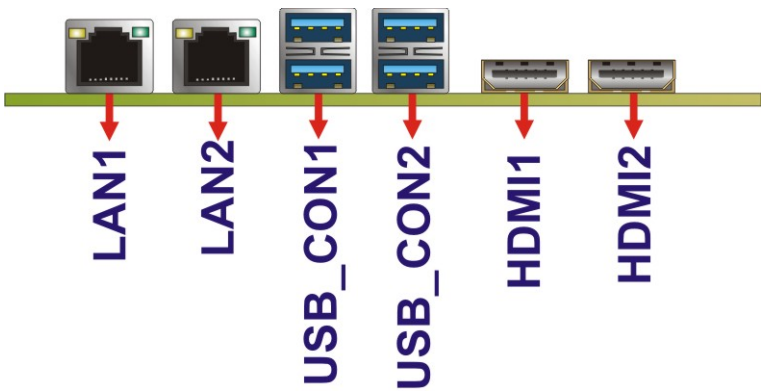

Figure 3-29: External Peripheral Interface Connector
Figure 3-29 shows the NANO-ULT3 external peripheral interface connector (EPIC) panel. The EPIC panel consists of the following:
- CN Location:** See Figure 3-29
- CN Location:** See **Figure 3-29**
CN Location: See Figure 3-29